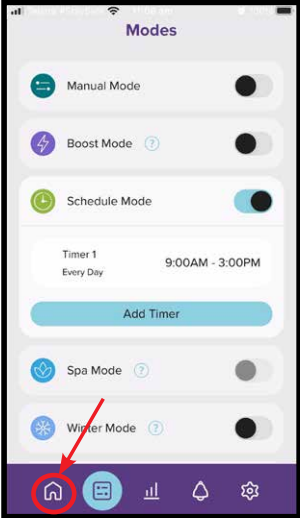

Figure 9.36
- The Modes screen should no longer show that specific timer. You can now return to the dashboard by using the home button (refer Figure 9.36).